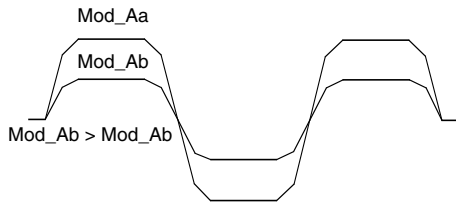

Figure 22. Two Different Modulator Attenuator Settings
- Figure 22 shows two waveforms with different attenuator setting: Mod_Aa Mod_Ab . If mod_A is increased, the frequency deviation is lowered and vice versa.
Mod_F=0 disables the modulator filter and Mod_F=7 gives most filtering. Figure 22 shows a waveform with and without the filter.